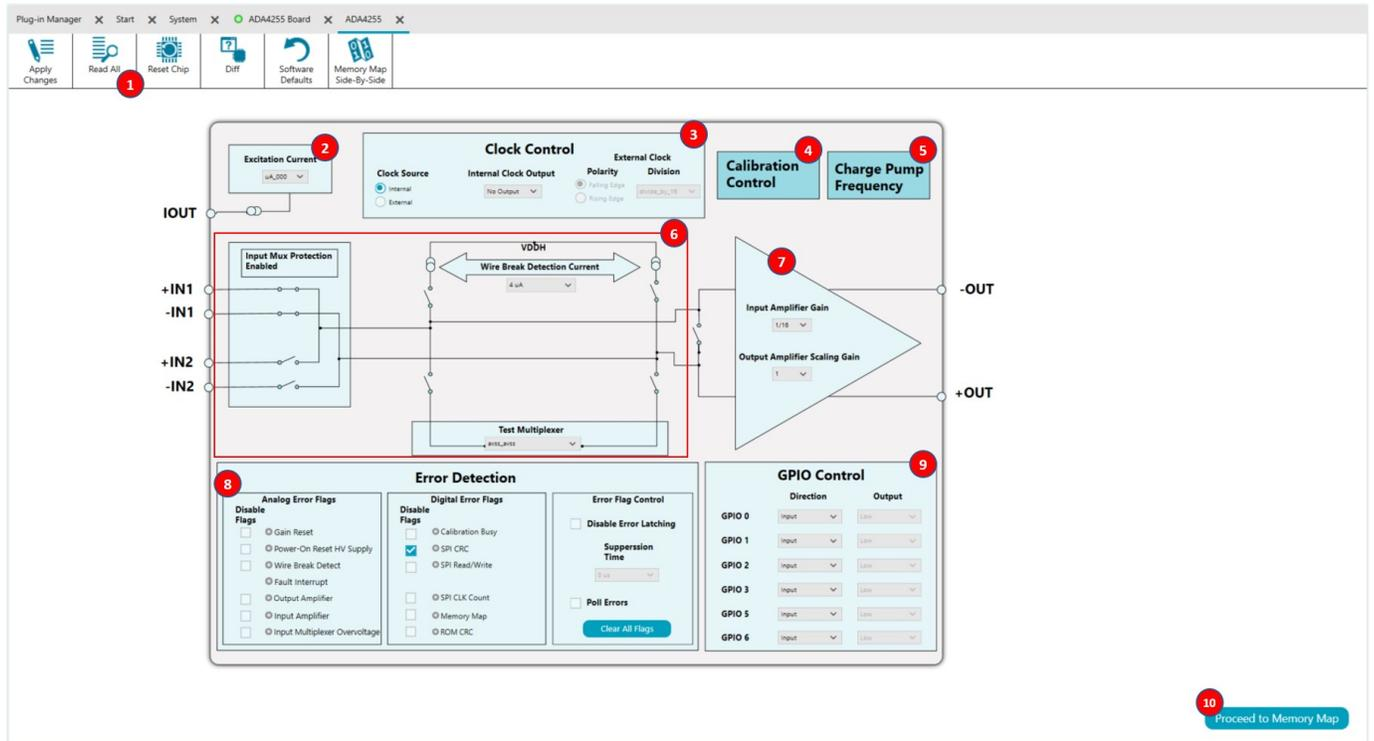

Figure 9. ADA4255 Evaluation Software Main Display
Note that the full screen block diagram shown in Figure 9 shows the full functionality of ADA4255. However, the following describes some of the blocks and their functions as the blocks and functions pertain to the ADA4255CP-EBZ:
1. **Read All** (which is located in the top left of Figure 9) reads all the register values of the ADA4255 and reflects these values in the **Chip View** display and the **Memory Map**. Click **Apply Changes** (which is located in the top left of Figure 9) to ensure that any changes are updated before reading the registers. Clicking **Reset Chip** (Label 1 in Figure 9) writes 0x01 to the software reset register of the ADA4255, which sets the ADA4255 back to the default configuration.
2. The **Excitation Current** (Label 2 in Figure 9) opens a drop-down menu. In this menu, users set the excitation current value for the ADA4255. After a change is made to the **Excitation Current** box, click **Apply Changes** to write the changes to the ADA4255.
3. The **Clock Control** panel (Label 3 in Figure 9) allows the user to either bring out the ADA4255 clock on the GPIO4 or to provide an external clock on the GPIO4. The GPIO4 has an SMA connector for ease of use with the external clock for synchronization purposes. The user can set up the division factor depending on the external clock speed as well as the edge on which the clock synchronizes. After a change is made in the **Clock Control** panel, click **Apply Changes** to write the change to the ADA4255.
4. The **Calibration Control** button (Label 4 in Figure 9) opens the window shown in Figure 10. This window allows the user to configure the calibration of the ADA4255. Set the first bit of the `trig_cal` register to 1 located in the memory map to trigger a calibration (see Figure 11), and then click **Apply Changes** to write the changes to the ADA4255.
5. The **Charge Pump Frequency** button (Label 5 in Figure 9) opens a window that allows the user to select the frequency of the charge pump. The user can choose from 8 MHz or 16 MHz. After a choice of frequency is made, click **Apply Changes** to write the changes to the ADA4255.
The components of the ADA4255 evaluation software user panel shown in Figure 9 include the following:
1. The multiplexer control section (Label 6 in Figure 9) allows users to control all of the switches available in the ADA4255 input multiplexer. This section also sets the wire break detection currents, the wire break switches, and the test multiplexer. After a change is made within the multiplexer control section, click **Apply Changes** to write the changes to the ADA4255.
2. The gain control area (Label 7 in Figure 9) allows users to select the gain of the ADA4255 as well as the scaling gains, 1 V/V, 1.25 V/V, or 1.375 V/V gains. After a change is made in the gain control area of Figure 9, click **Apply Changes** to write the changes to the ADA4255.
3. The **Error Detection** section (Label 8 in Figure 9) has three sections, the first two show the **Analog Error Flags** and the **Digital Error Flags** on the ADA4255. Each ADA4255 error flag is mapped to an indicator that turns on when the corresponding error bit is on. Both the digital and analog error register values are updated in the **Analog Error Flags** and **Digital Error Flags** fields. There is a check box next to each error flag that indicates whether the corresponding error flag is disabled or not. To disable the error flag, click the corresponding check box to
4. The **GPIO Control** section (Label 9 in Figure 9) allows users to configure each GPIO direction by selecting the direction within the corresponding **Direction** dropdown menus. The **Input** and the **Output** directions can also be selected from the **Direction** dropdown menus. If in output mode, the user can set the GPIOx pin to either high or low through the use of the dropdown menus under the **Output** column. If in input mode, the **Output** column dropdown menus automatically update to high or low depending on the corresponding GPIOx pin status.
5. Click **Proceed to Memory Map** (Label 10 in Figure 9) to read from and write to any of the registers. Use hex format in all fields. A detailed view of the memory map is shown in Figure 12. For more information on the Memory Map view, go to <https://wiki.analog.com/resources/tools/software/ace/understandingtheui/memorymapview.txt>.